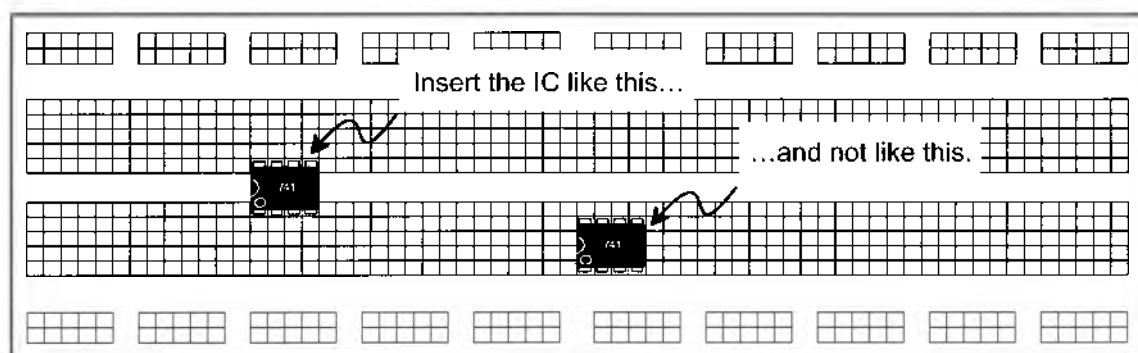

Figure 1
3. Insert the amplifier IC into the breadboard across its centre as shown in Figure 1 below.